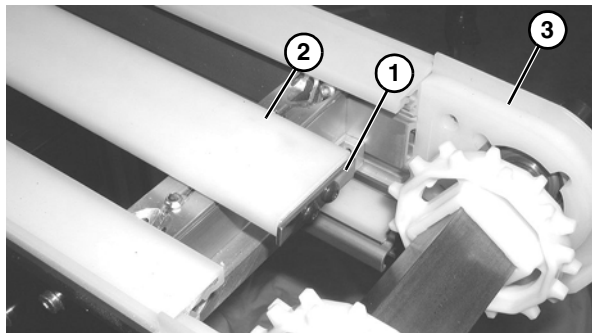

Figure 5
The stop plate (**Figure 5, item 1**) on the center wear strip (**Figure 5, item 2**) faces the drive end (**Figure 5, item 3**) of the conveyor.